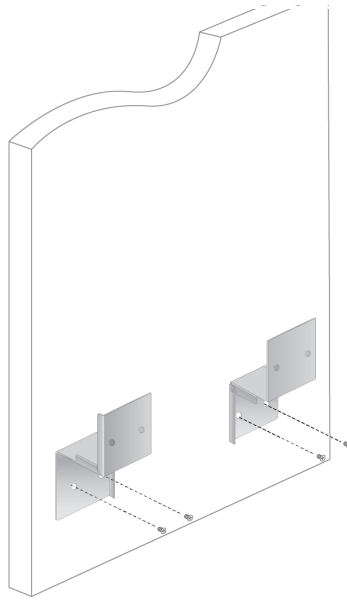

Figure 48. Driving the Screws through the Holes
6. Position brackets on the wall and drive screws through the holes to attach the brackets on the wall. See Figure 48.